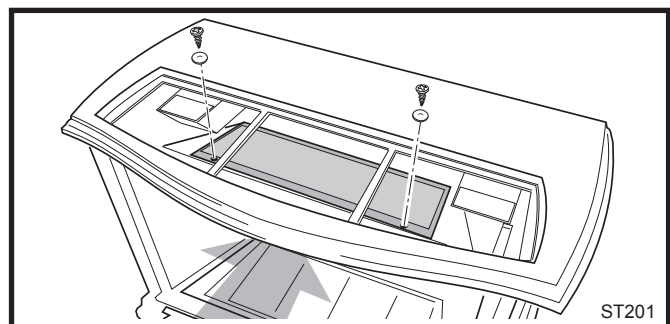

Fig. 20 Install catalytic combustor.
7. Slide catalyst between top plate and firebox. Allow catalyst to “fall” into hole on top of firebox. Secure with two screws as shown in Figure 20.